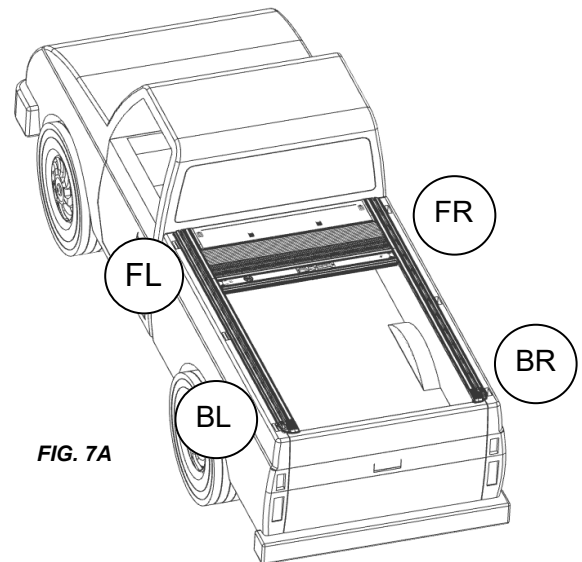
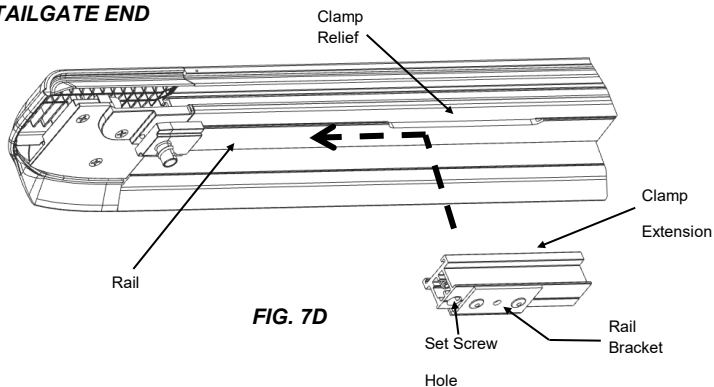

FIG. 7A
FIG. 7D
Slide the clamp extensions on the tailgate and cab end of each rail as pictured in Figure 7A-7E. Ensure that your tailgate end and cab end extensions are in the correct orientation (FIG 7D & 7E). Each clamp extension is labeled for front left (FL), front right (FR), back left (BL), and back right (BR) as shown in figure 7F. The extensions go on the corners shown in figure 7A.